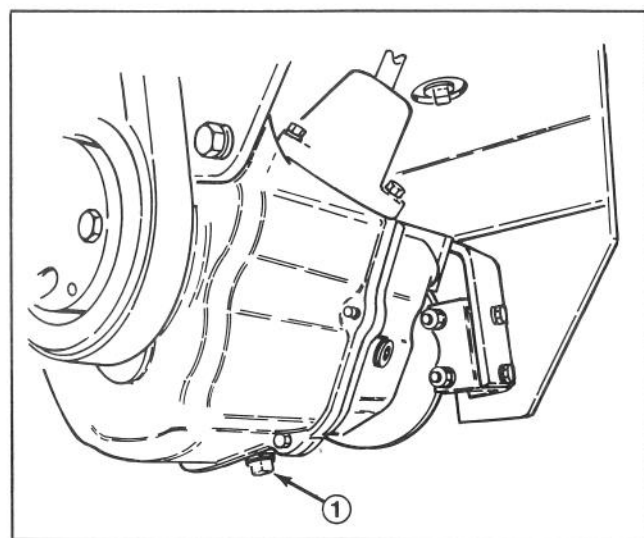

Figure 35
1. Place a drain pan below drain plug on axle. Clean area around drain plug (Fig. 35).